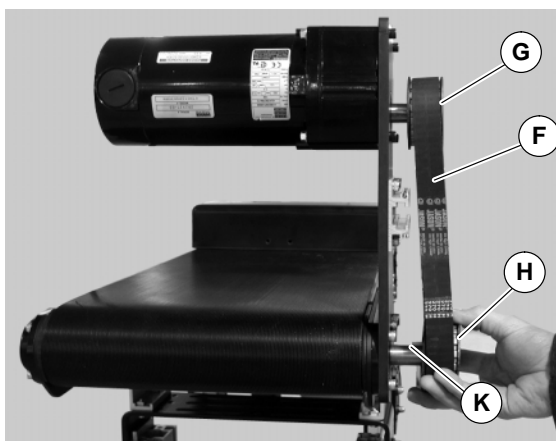

Figure 5
- Install key (K of Figure 5).
NOTE: If drive pulley (G of Figure 5) is replaced, wrap timing belt around drive pulley and complete step 3.